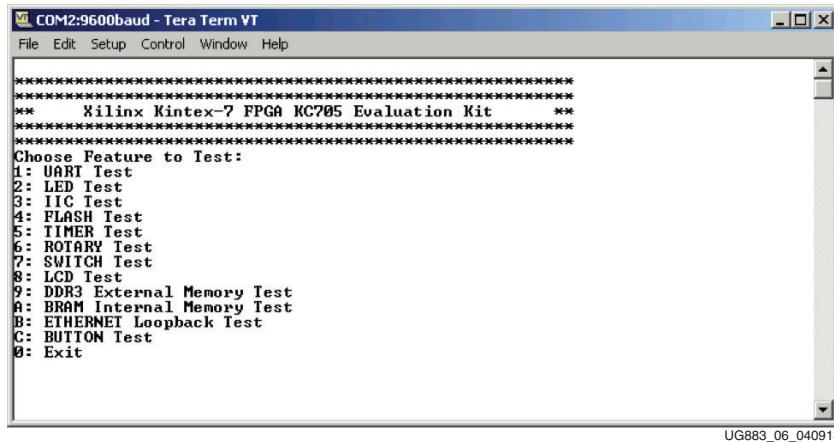

Figure 6: BIST Main Menu
2. Press PROG (SW14) on the KC705 board, and view the BIST output on the terminal window (see Figure 6).